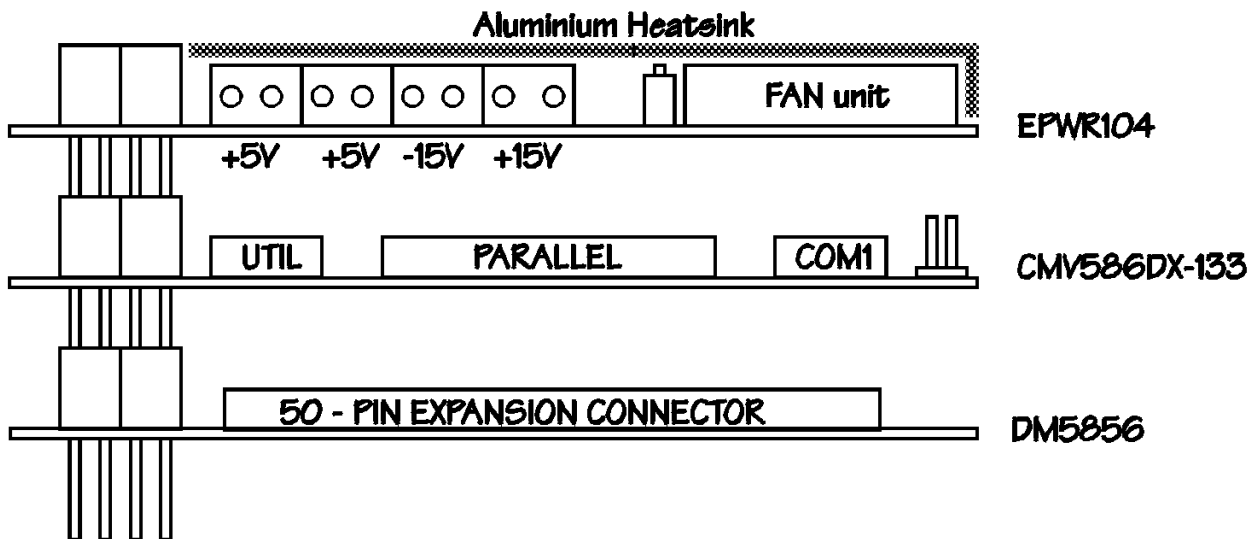

Fig. 3-1: DM5856/DM6856 integrated in a PC/104 RTD cpuModule stack
- Fig. 3-1 : DM5856/DM6856 integrated in a PC/104 dataModule stack